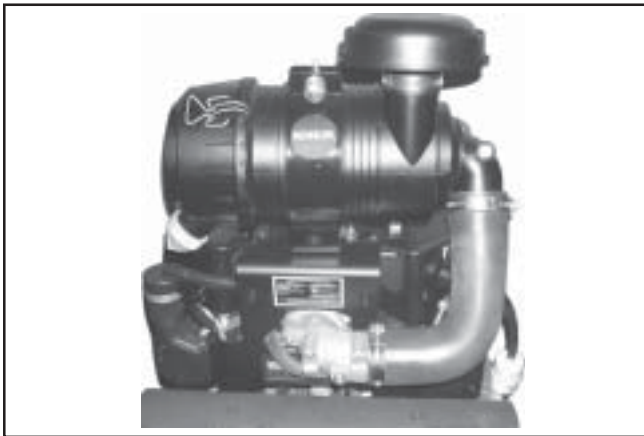

Figure 4-9. Heavy-Duty Air Cleaner.
Three different types are used. The “standard” type air cleaner is shown in Figure 4-1. The “commercial mower” type is shown in Figure 4-2, and the “heavy-duty” air cleaner is shown in Figure 4-9.
7. Reinstall the end cap so the dust ejector valve is down, and secure with the two retaining clips. See Figure 4-9.